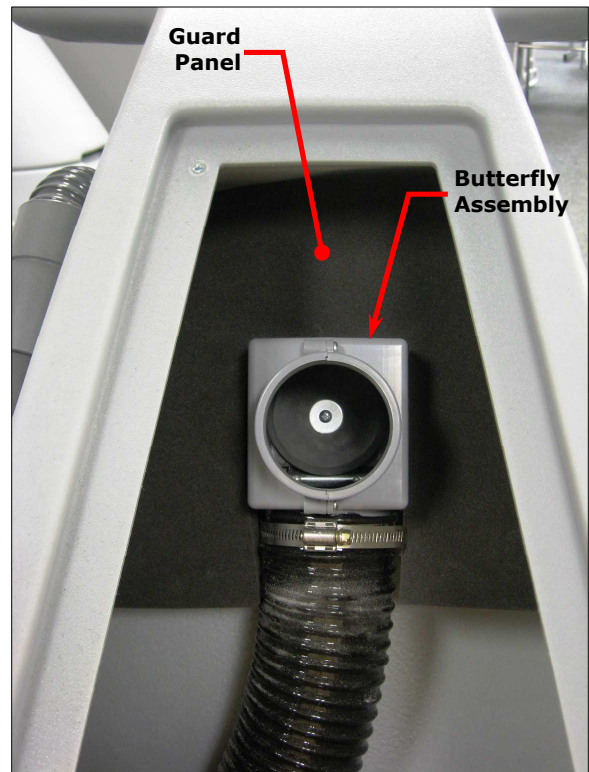

Figure 3 – Installed Guard Panel
2. See Figure 3. Install the foam **Guard Panel** onto the **Butterfly Assembly**.